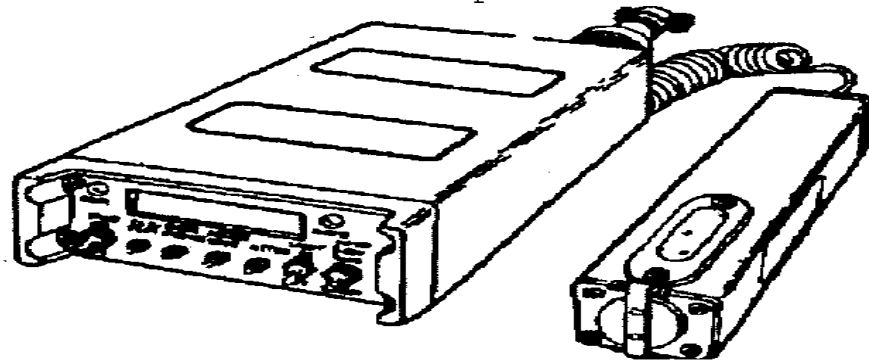

Figure 6-13. AN/VDR2 Radiac Set
e. The AN/VDR2 is used to locate and measure radioactivity in the form of gamma rays and beta particles (Figure 6-13). It displays dose rates and total accumulated dose resulting from fallout. The AN/VDR2 has the following: